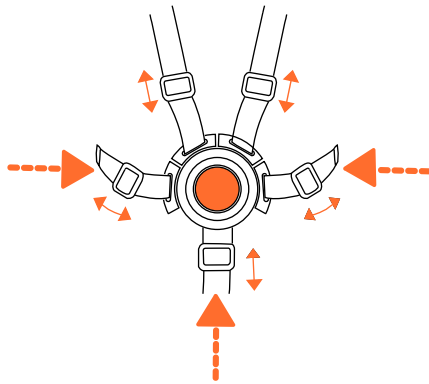

Fig. 16
- Adjust waist straps for your child's comfort and safety by sliding buckles in either direction. Safety Straps are to fit snug around your child (Fig. 16)